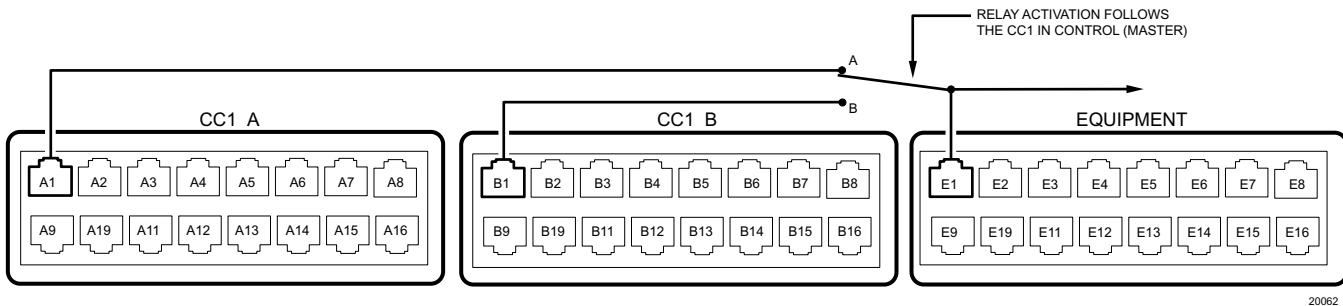

Figure 1-7. SEU Port Relationships
2. A specific physical relationship (depicted in Figure 1-7) exists internally between SEU Sercom inputs (A or B) and associated SEU EQUIPMENT outputs.
The Sercom ports on the SEU shown in Figure 1-7 are isolated and numbered (for explanatory purposes); the ports on the SEU are physically related as illustrated.
As indicated above, the configured outputs of 9700-CC1 ports can be plugged into any input port on the appropriate SEU, as long as you allow for the physical constraint illustrated in Figure 1-7, above.